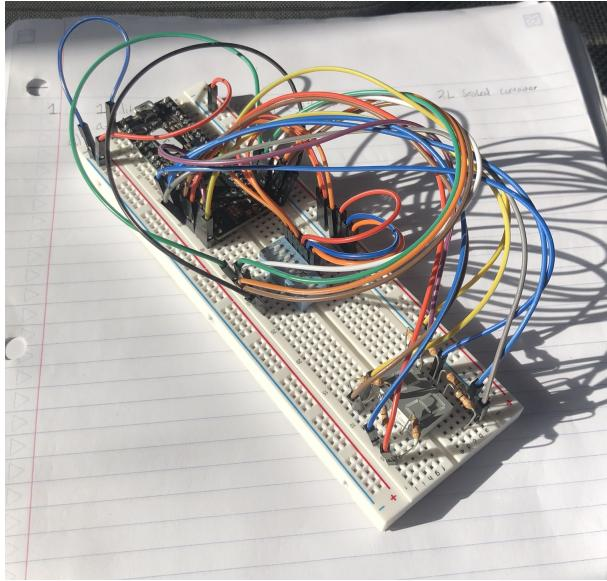
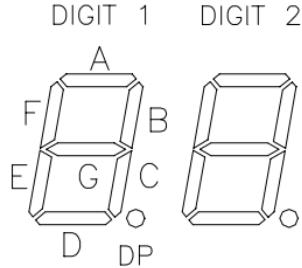

Figure 7: Completed circuit
Figure 8: Letters associated with each segment
**Figure 7** shows the completed circuit.
The completed circuit, shown in **Figure 7**, was bound not to work on the first try since we just wrote a whole bunch of code. The first test is shown in **Table 2** where *dip\_value* is the 6-bit input, *#* is the corresponding value in base 10, *Exp.segments* are the segments we expect in the order A-G, and *Meas.segments* are the segments we observed in the order A-G. For the sake of simplicity, a ‘1’ indicates that a segment is ON while a ‘0’ indicates that a segment is OFF, even though we actually send a high voltage to the segments we want OFF. The letters associated with each segment on the seven-segment display are shown in **Figure 8**. Note that the labeling of the segments on the second digit are analogous to that of the first.